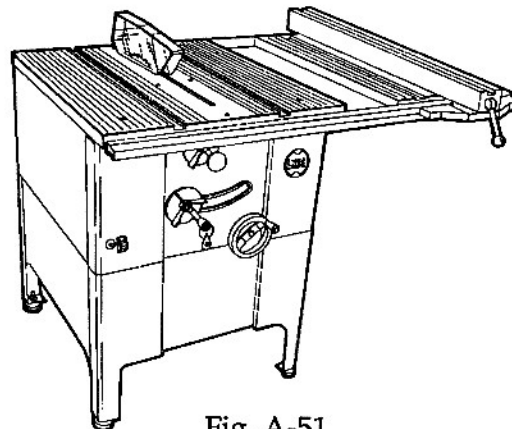

Fig. A-51
58. Fig. A-51 shows the completely assembled Deluxe Model.